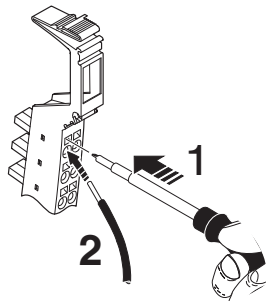

Figure 11-1 Connecting unshielded cables
- Push a screwdriver into the slot of the appropriate terminal point (Figure 11-1, detail 1), so that you can insert the wire into the spring opening. Phoenix Contact recommends using a SZF 1 - 0,6X3,5 screwdriver (Order No. 1204517).
- Insert the wire (Figure 11-1, detail 2). Remove the screwdriver from the opening. This clamps the wire.
- Push a screwdriver into the actuation shaft of the appropriate terminal point (Figure 11-1 on page 133, detail 1), so that you can insert the wire into the spring opening.
- Insert the wire (Figure 11-1 on page 133, detail 2). Remove the screwdriver from the opening. This clamps the wire.